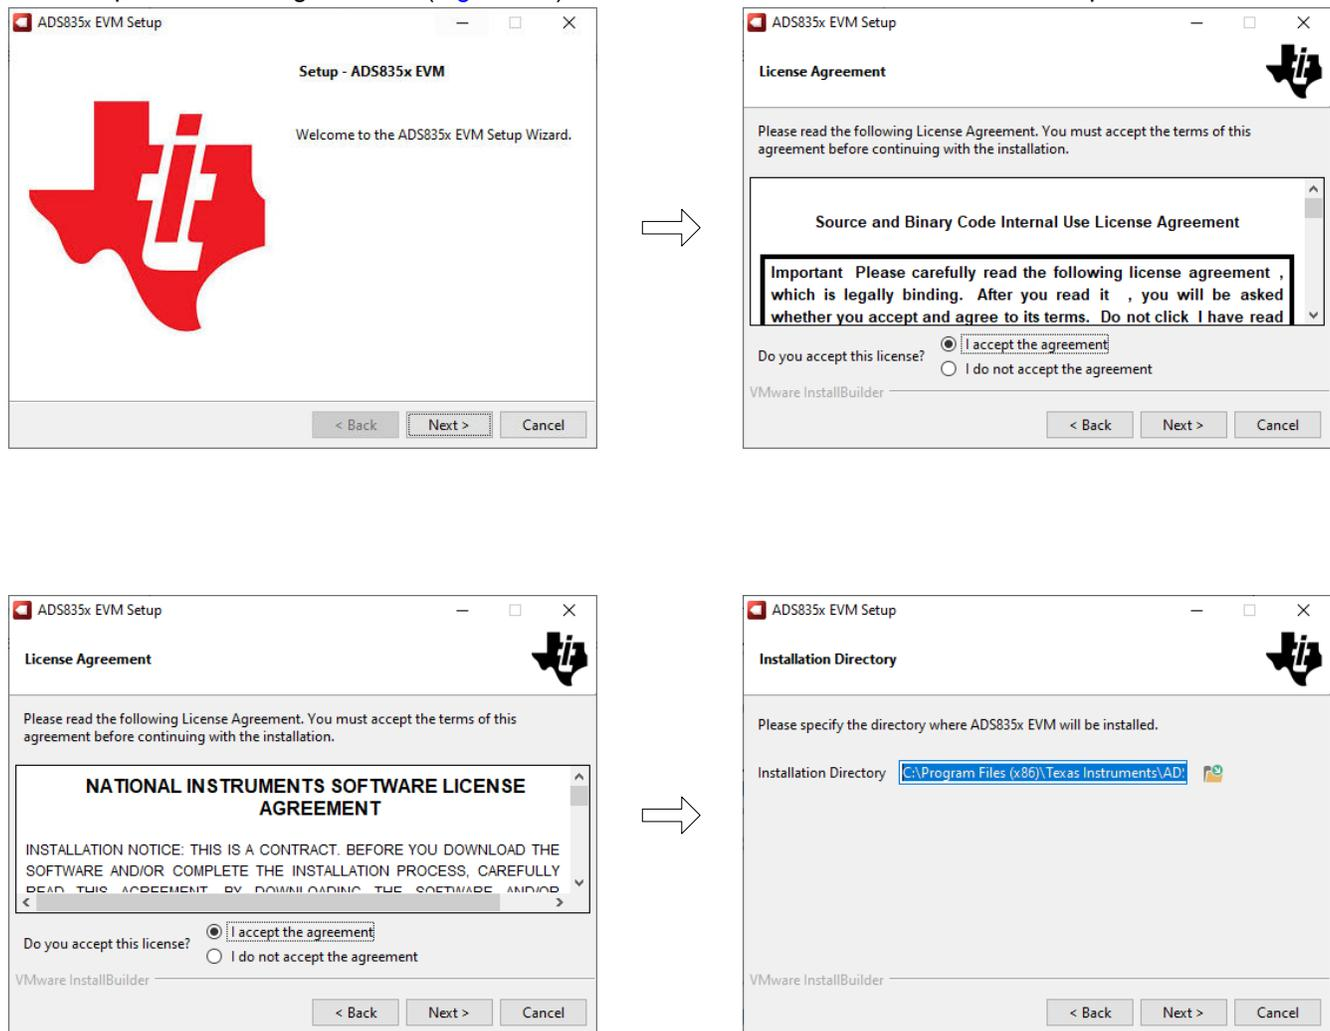

Figure 5-2. ADS835x EVM Software Installation Prompts
2. Accept the license agreements (Figure 5-2) and follow the on-screen instructions to complete the installation.